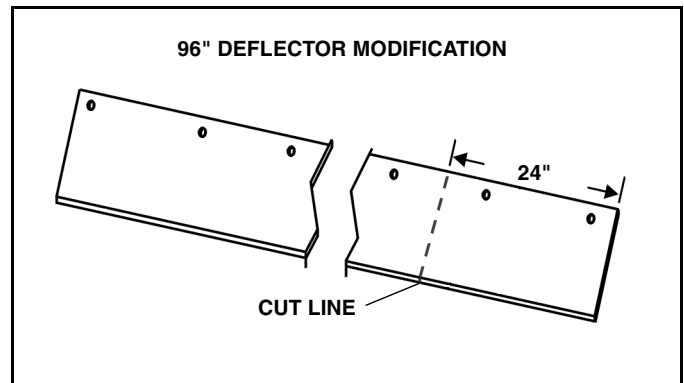

Figure 1-3
1. To shorten to a 96" deflector, remove 24" from one end of deflector. (See fig. 1-3)